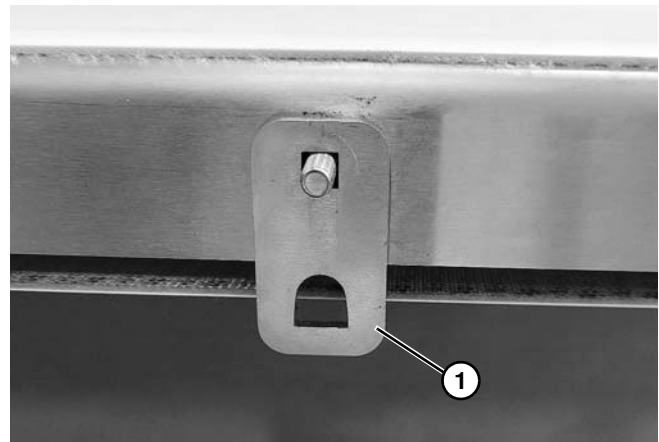

Figure 31
2. Install shaft bracket (Figure 31, item 1) onto carriage bolt.